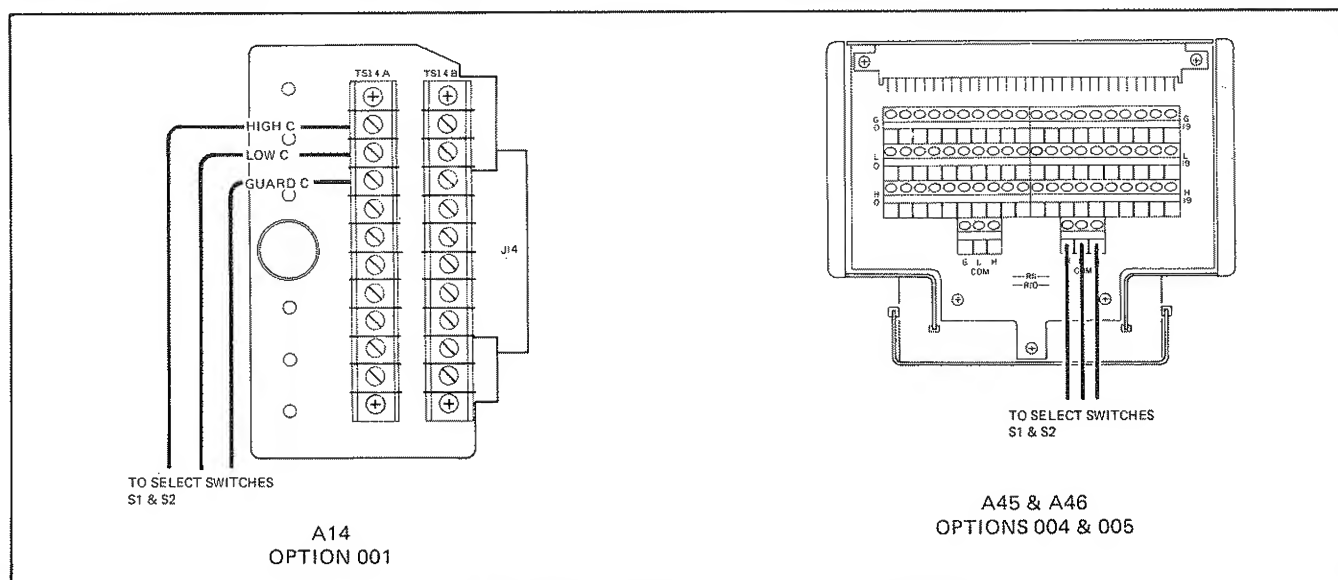

Figure 4-5. Channel Isolation Test Wiring Diagrams.
- b. Wire the Option Connector as shown in Figure 4-5.